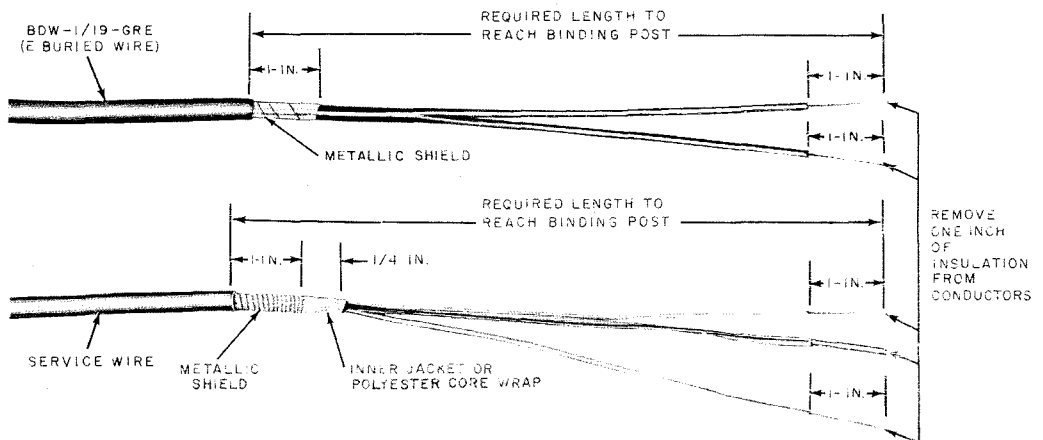
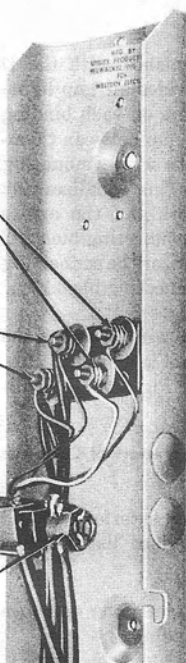

Fig. 11—Prepared Service Wire, D or E Buried Wire Terminal
Fig. 12—Service Wire Terminated, D or E Buried Wire Terminal
4.12 The termination of service wire in either the D or E buried wire terminal is identical. Prepare the service wire as shown in Fig. 11 and terminate as shown in Fig. 12.